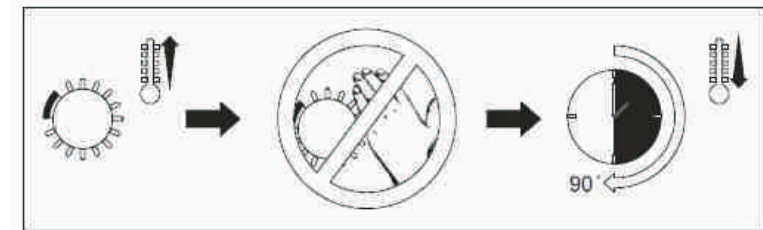

FIG.6
**Replacement of the oven light bulb (Fig.6)**